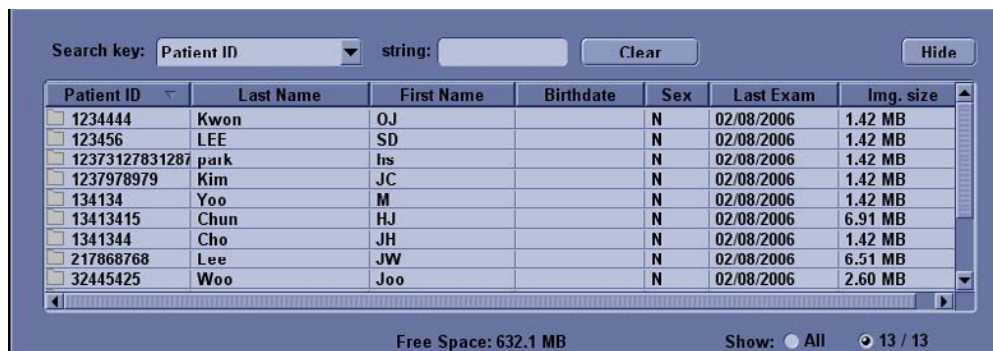

Figure 4-22 Destination Section of Patient Screen
- 6.) The progress bar appears as the copy is taking place. Once transfer completed, the exported patient list will be shown as Figure 4-22.